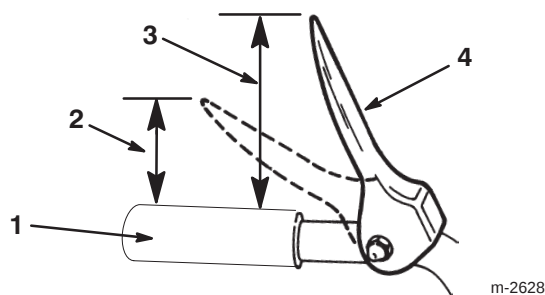

Figure 12
5. Check the distance between the top of the handgrip and the bottom of the auger/impeller drive control lever. The distance should be approximately four inches (10.2 centimeters) as shown in Figure 12.
distance between the top of the handgrip and the bottom of the auger/impeller drive control lever is two inches (five centimeters) as shown in Figure 12.